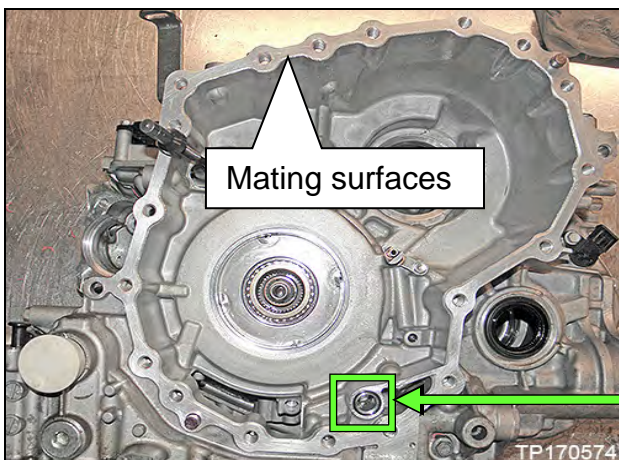

Figure 13E
12. Remove the lifting Fixture from the sub-assembly and replace all six (6) original bolts.
13. Thoroughly clean the mating surfaces of the CVT case (Figure 13E) that the sub-assembly was just separated from (a plastic scraper can be used).